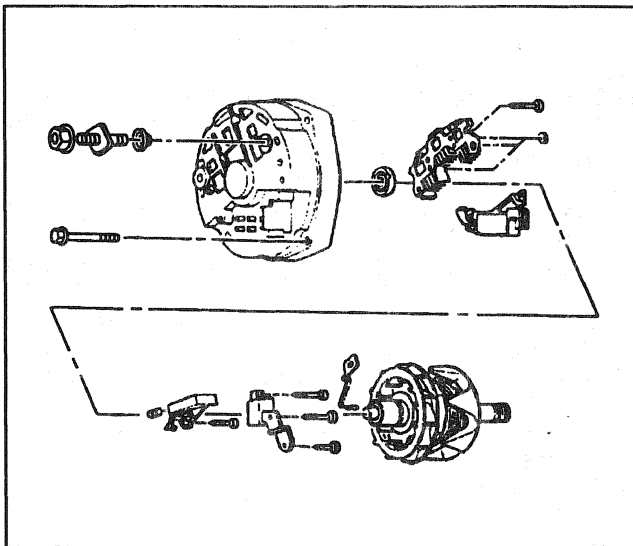

Figure 4—CS-144 Components (1 of 2)
-  Remove or Disconnect (Figures 4 through 7)
Remove or Disconnect (Figures 4, 5, 8 and 9)